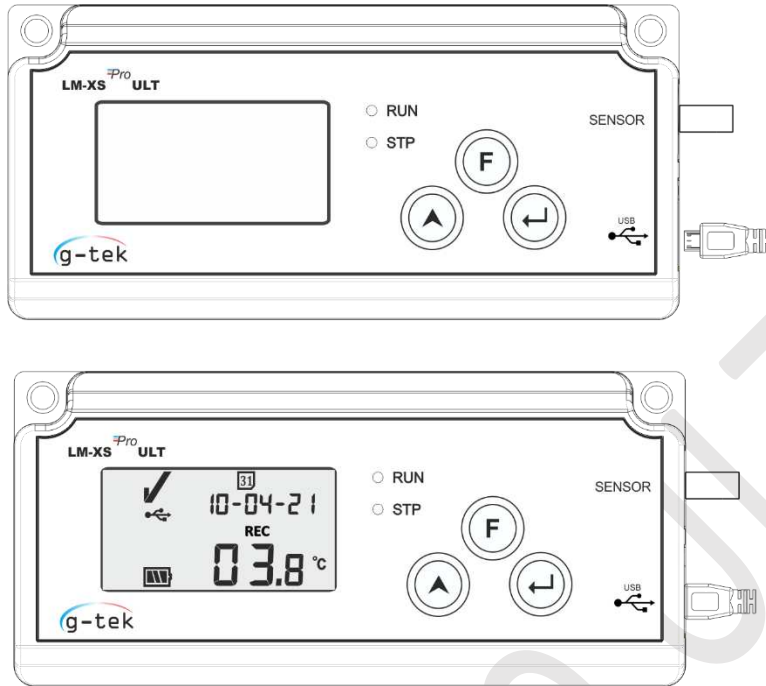

Figure 21 Micro USB Attachment
- Connect the LM-XS^{Pro} ULT data logger to Windows PC via the USB Type-A port as shown in figure 21.